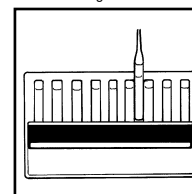

Figure 7
- b. **High Range Comparator (fig. 7):** Place the ampoule between the color standards until the best color match is found.